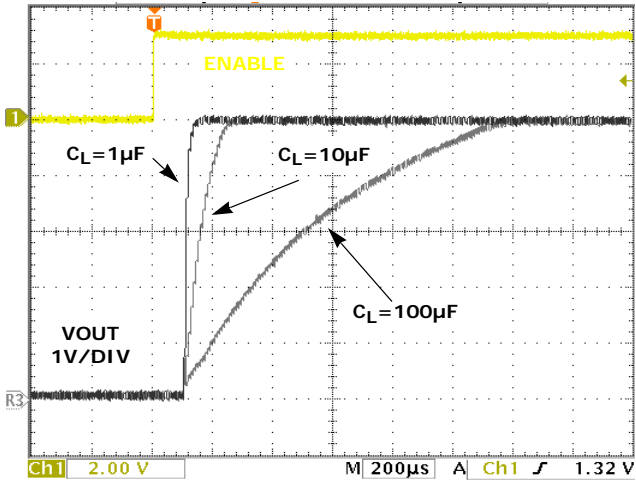

FIGURE 11. V_{OUT} TURN-ON/RISE TIME vs C_{LOAD} . $V_{IN} = 5V$, $R_L = 10\Omega$
The ISL6185 is a dual channel fully independent overcurrent (OC) fault protection IC for the +2.5V to +5V environment. Each ISL6185 incorporates in a single package two 85mΩ P-channel MOSFET power switches for power control. Independent enabling inputs and fault reporting outputs compatible with 2.5V to 5V logic allows for external control and reporting. This device features integrated power switches with current monitoring, accurate current limiting, reverse bias protection and current limited timed delay to turn-off for system reliability. See Figures 11 through 26 for typical operational waveforms including both under and overcurrent situations.
Upon proper bias and of the evaluation platform and correct enabling of the IC the ISL6185 will have a nominal $V_{IN}/10\Omega$ load current passing through each enabled switch which is below the continuous current rating. See Figures 11 and 12 for typical ISL6185 turn-on and off waveforms.